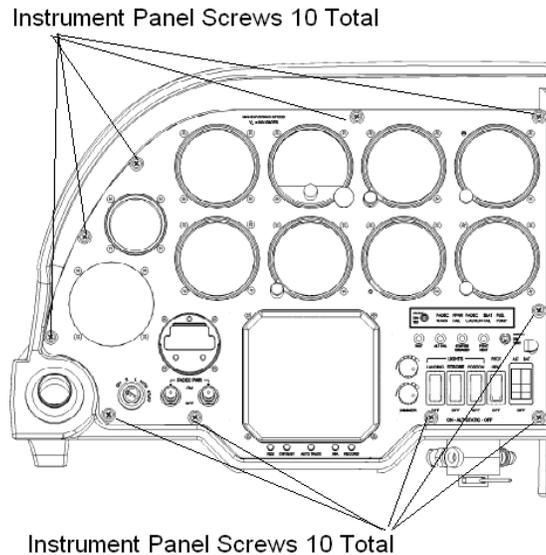

Figure 34-9 Instrument Panel Assembly Showing the Location of the Screws
2. Remove the ten screws that secure the Flight Instrument Panel assembly to the console. Refer to Figure 34-9 for the location of these screws.